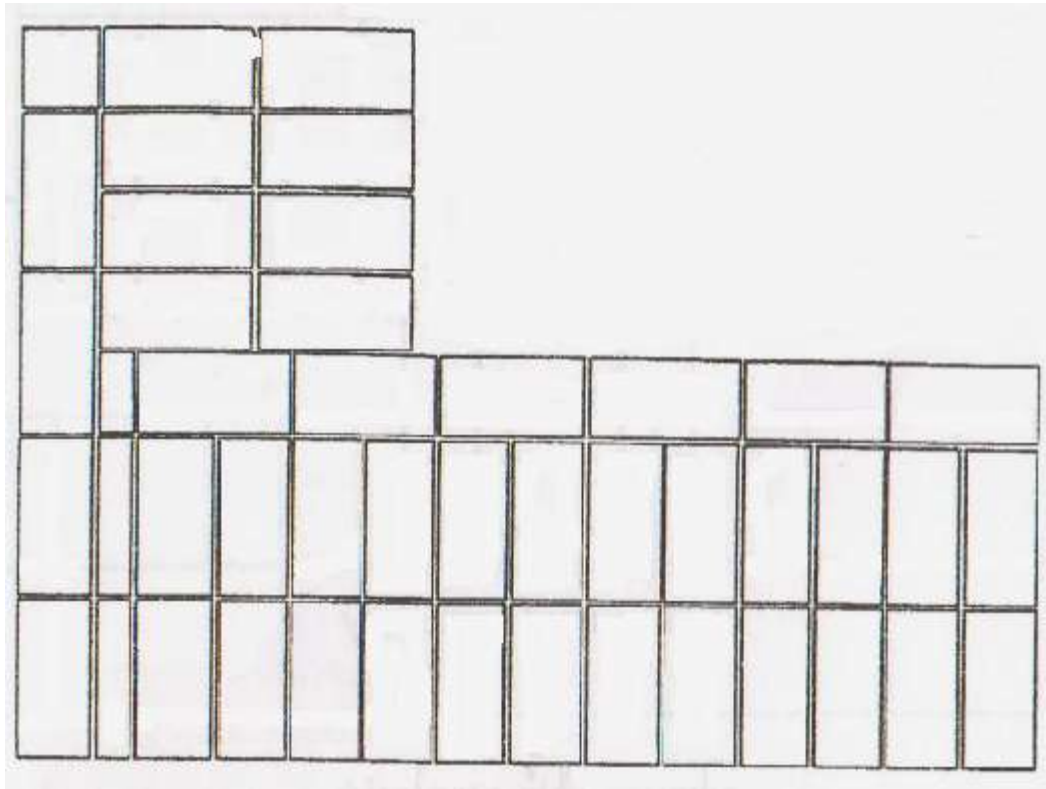

FIGURE 1
2.1 FIGURE 1 (DIAGRAM SHEET 1) shows course 1 of a TWO-AND-A-HALF brick right-angled corner in English bond.